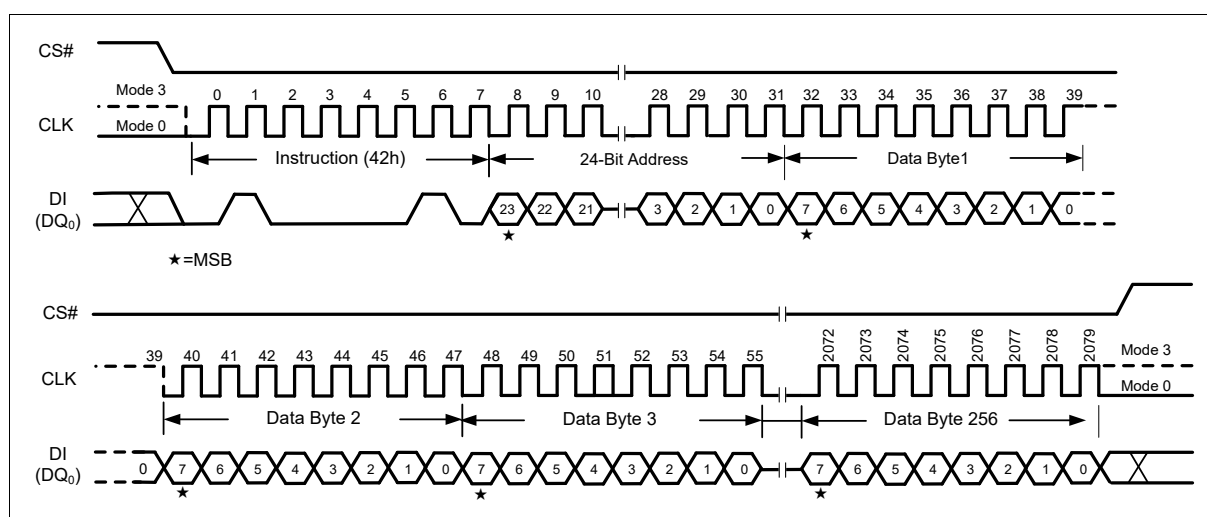

Figure 37 Program Security Sectors Instruction (SPI Mode)
The Program Security Sector instruction sequence is shown in Figure 37. The Security Sector Lock Bit (LB) in the Status Register-2 can be used to OTP protect the Security Sectors. Once a lock bit is set to 1, the Security Sector will be permanently locked, Program Security Sector instruction will be ignored.